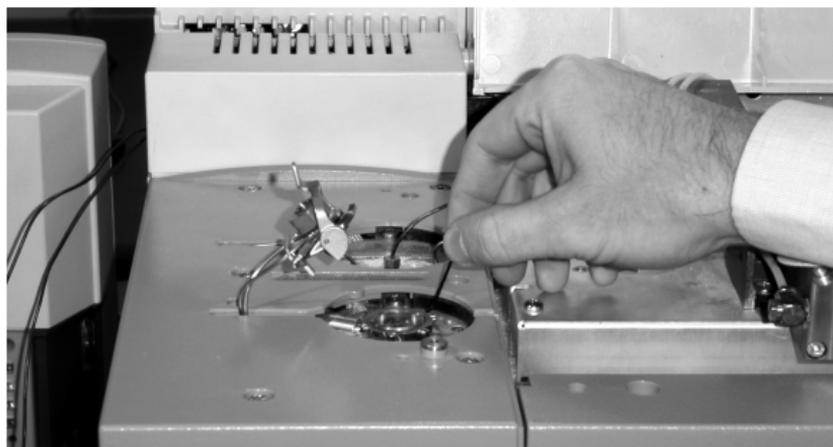

Figure 6 Positioning the adapter ring
- 9** Screw the adapter ring onto the top of the inlet body until it stops. Wind back one turn until the locking arm locates two pins 180 degrees apart when placed on top of the liner and O-ring in the inlet (see Figure 6).
- If operation is smooth and effortless, carefully tighten the Allen head set screws, using the supplied Allen wrench, to maintain the position of the adapter ring as shown in Figure 6. Be careful not to strip the set screw.